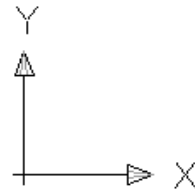

Figure Step 6
Step 6 Change the current view to Front. The UCS icon should now appear as shown in the figure. (Figure Step 6)